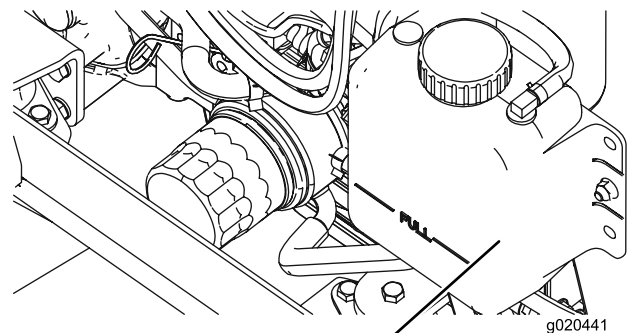

Figure 64
- Carefully remove the radiator cap and expansion-tank cap (Figure 64).